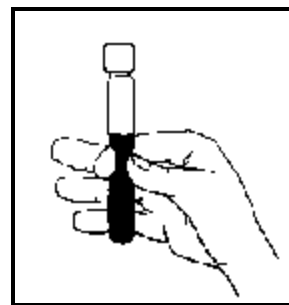

Figure 4
2. Remove the black cap from the glass vial containing the extraction solvent and pour the entire contents of the vial into the tube containing the soil. Replace the white cap on the plastic test tube tightly and shake the tube vigorously for one minute. Break up any lumps of soil by squeezing the sides of the test tube during the shaking process. (See Figure 4) Allow the tube to settle upright for two minutes.